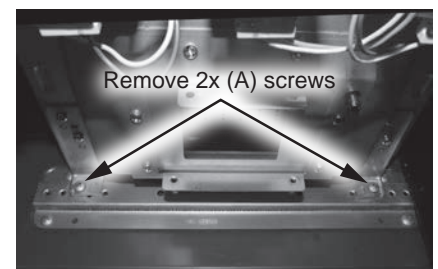
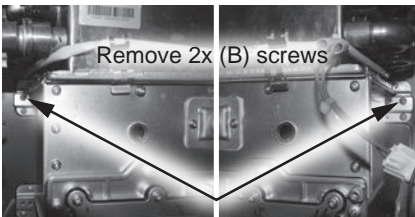

Figure 152 - Removing primary HEX (A) screws
Figure 153 - Removing primary HEX (B) screws
- 44** Locate the bottom horizontal bracket and two (A) screws securing the primary heat exchanger assembly to the backside of the water heater cabinet as shown in Figure 152. Use a 12" magnetized Phillips screwdriver to remove the screws. Place them aside in a safe place for reinstallation.
- 45 Locate the upper horizontal bracket and two (B) screws securing the primary heat exchanger assembly to the backside of the water heater cabinet as shown in Figure 153. Use a 12" magnetized Phillips screwdriver to remove the screws. Place them aside in a safe place for reinstallation.
**75** Locate the four primary heat exchanger mounting screws previously removed in **Steps 44 & 45**. Use a 12" magnetized Phillips screwdriver and four screws to secure the heat exchanger to the two horizontal brackets. See Figure 152 & Figure 153.